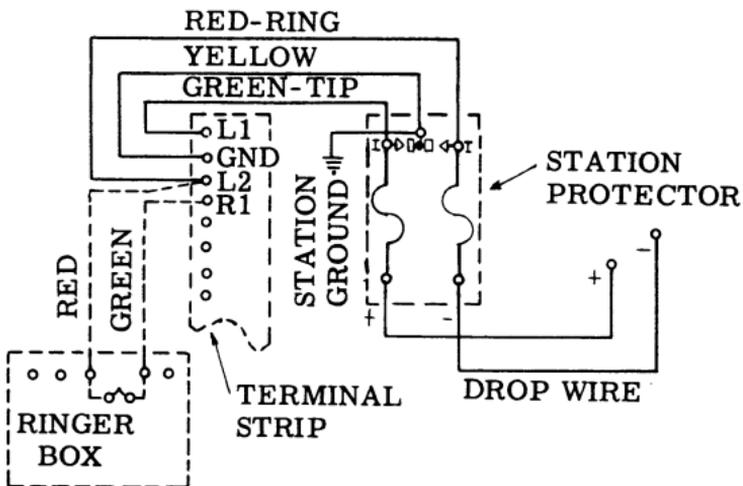

Fig. 1
- (1) Remove the upper housing from the paystation.
- (2) Use eight 1" x 14 F.H. galvanized wood screws to attach the lower housing to the backboard.
- (3) Make sure that the inside wire passes through the backplate slot without binding.
- (4) Use wood screws to mount the ringer box to the lower part of the backboard. Machine screws shall be used in both installations.
- (5) Again be sure the inside wire is not bound as it enters the ringer.
- (6) Connect all wires as shown in FIG. 1.